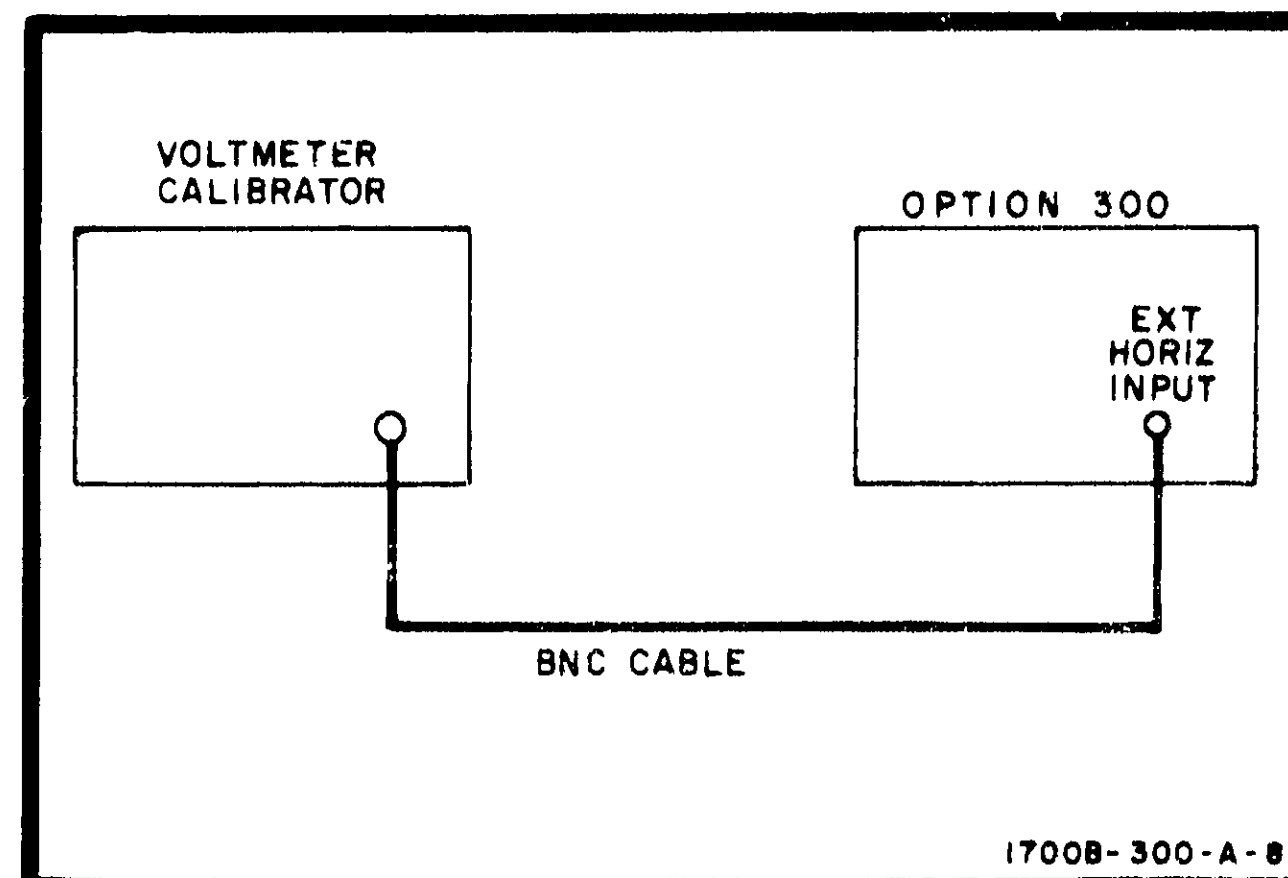

Figure 5-11. Ext Horiz Deflection Factor Test Setup
- a. Set instruments up as shown in figure 5-11.